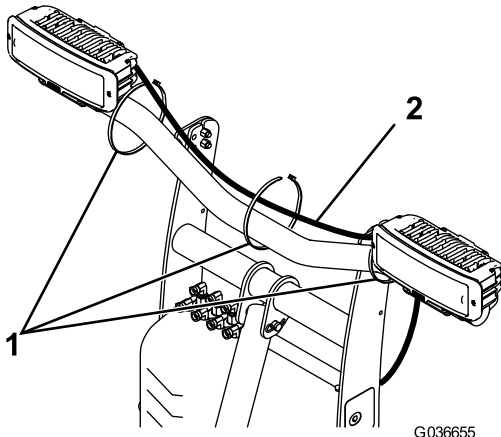

Figure 14
- Insert the headlight connectors on the wire harness to the back of the headlight housing (Figure 14). The short length connects to the left headlight and the long length connects to the right headlight.
- Secure the wire harness to the light bar using 3 cable ties as shown in Figure 14.